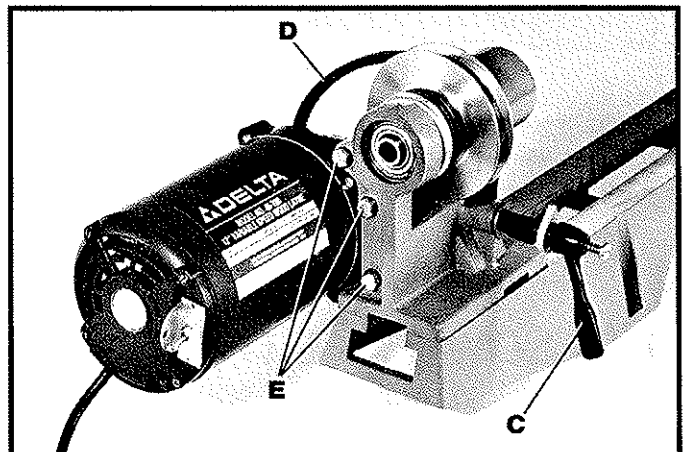

Fig. 89
5. Turn variable speed control handle (C) Fig. 89, counterclockwise to loosen tension on belt (D).
6. Remove three screws (E) Fig. 89. **CAUTION: CARE MUST BE TAKEN TO SUPPORT THE MOTOR WHEN REMOVING SCREWS (E) AS MOTOR BRACKET AND MOTOR WILL FALL FROM HEADSTOCK AND MOTOR PULLEY WILL SEPARATE.**